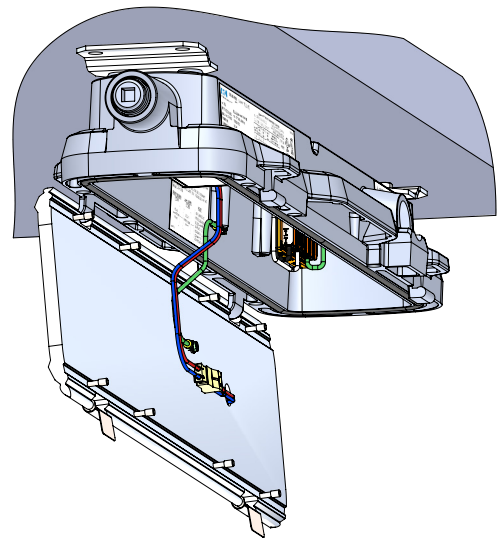

Figure 2. LED light engine fitting open servicing position
4. Pull on retention clips to free light engine from driver housing and pivot light engine to open position while light engine supported by driver housing hooks (see Figure 2).